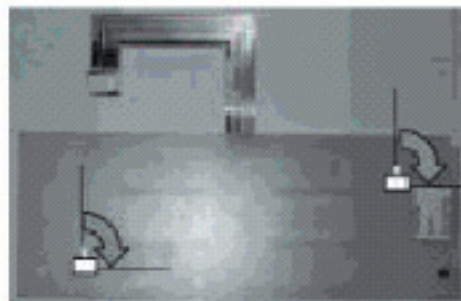

Fig. 4-4
8. Insert the tabs into the backer plate and lock the membrane switch to the console by turning the tabs 90 degrees. (Fig. 4-4)